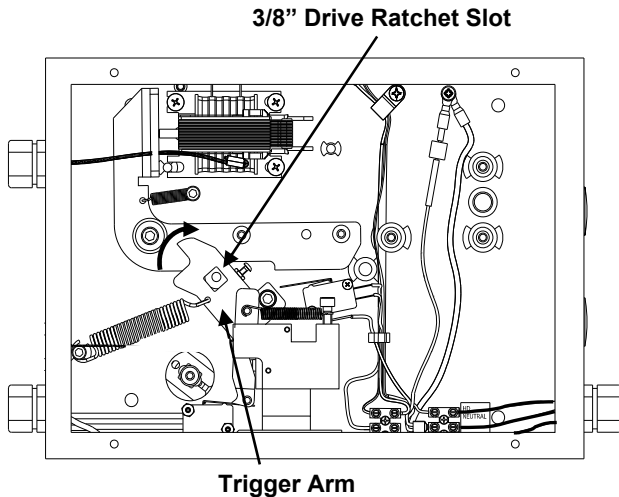

Figure 4-61.
2. Rotate the Trigger Arm clockwise until the Locking Lever slides over the Trigger Arm and drops into the SET position. See **Figure 4-61**